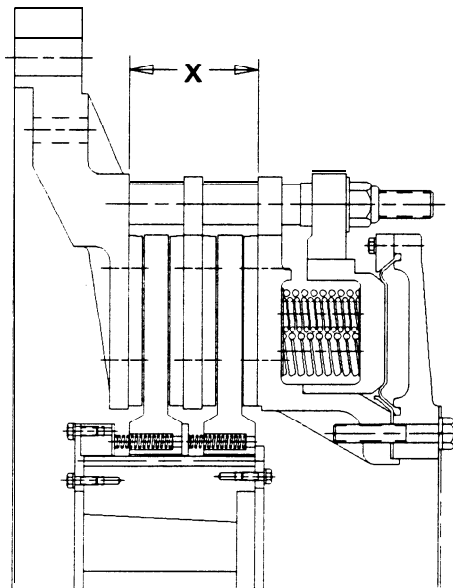

Fig. 10
- 4.2.1 Brake adjustment is required as the friction material wears. To determine when adjustment is required, measure the gap "X" between the pressure plate and the mounting flange with the brake engaged (air released), as shown on Figure 10. Compare the measured gap to the values listed in Table 3. Adjust the brake by re-arranging the wear spacers and spacer plates to the appropriate positions per the following procedures.